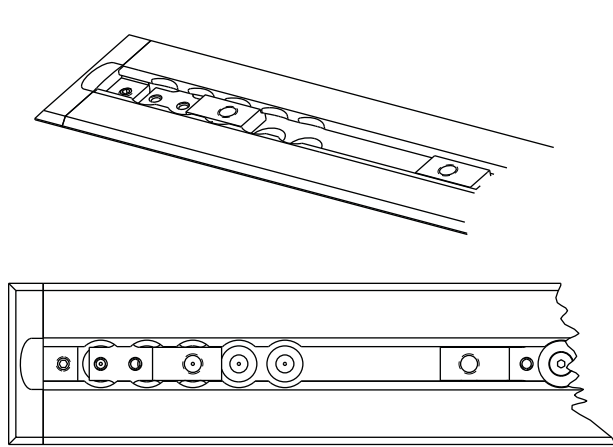

Figure 10: Insert Floor Plate Attachment Bracket
34. Insert a floor plate attachment bracket (6390-001-108) at the foot end of the vehicle patient compartment to install the safety hook (6390-001-148) (Figure 10). Line the notches with the tabs to insert, then slide the bracket into the floor plate assembly.